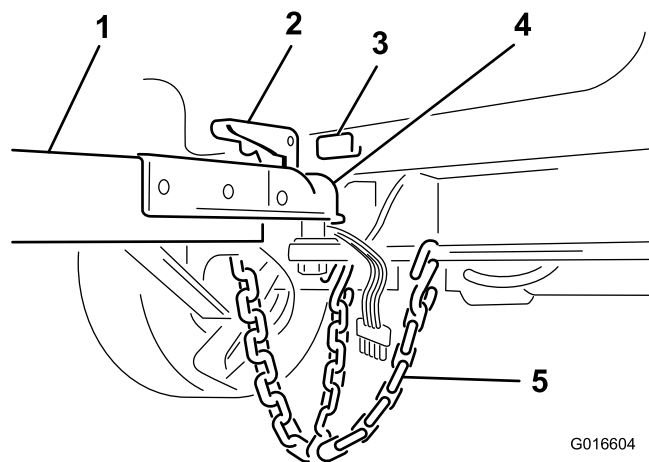

Figure 5
5. Install the locking pin to secure the lever (Figure 5).